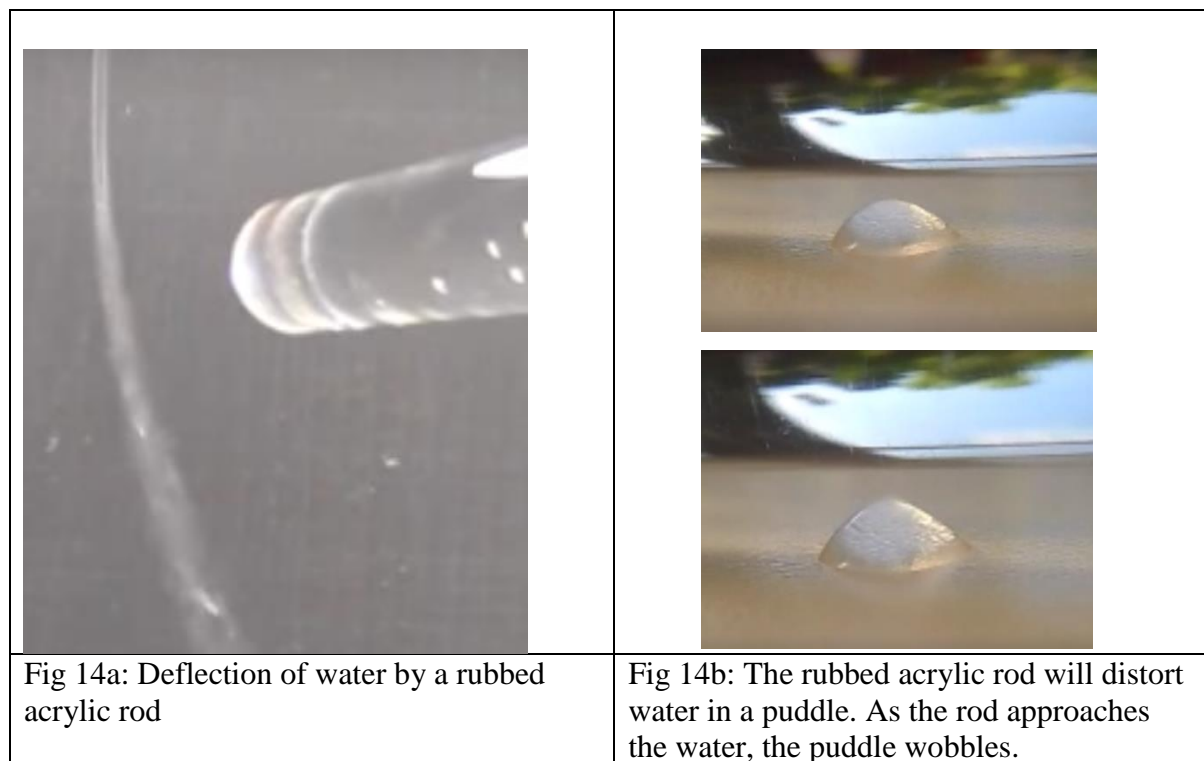

Fig 13: A model of the water molecule illustrating polarization
*Water molecules are polarized (Fig 13)*